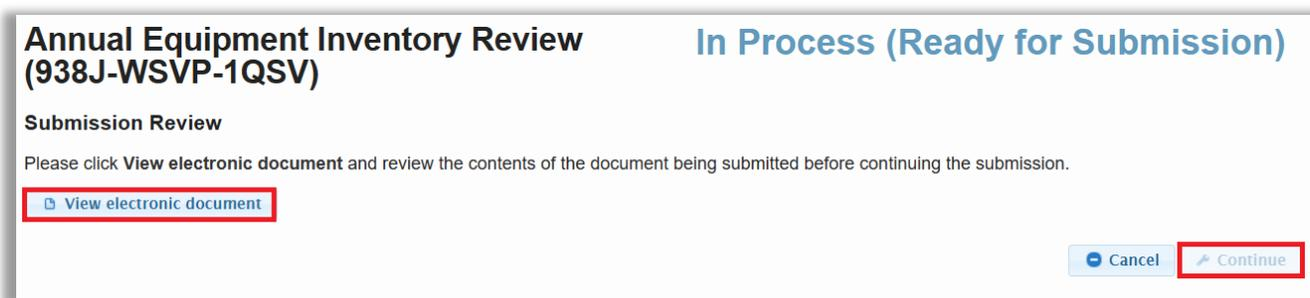

Figure 11-15 – View Electronic Document
5. Click **View electronic document** - open the document to view for accuracy and activate the Continue button. See **Figure 11-15**.